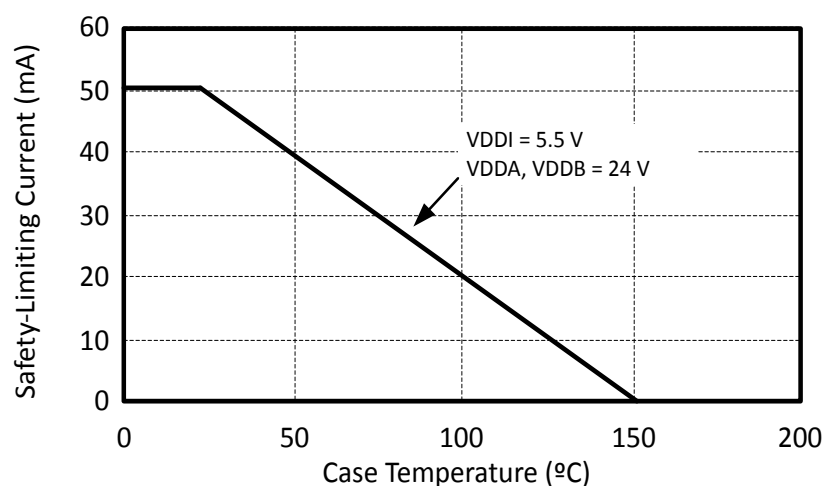

Figure 3.4. WB SOIC, NB SOIC, 14 LD LGA/QFN Thermal Derating Curve, Dependence of Safety Limiting Values with Case Temperature per VDE 0884-10
- Maximum value allowed in the event of a failure. Refer to the thermal derating curve in Figures [Figure 3.4 WB SOIC, NB SOIC, 14 LD LGA/QFN Thermal Derating Curve, Dependence of Safety Limiting Values with Case Temperature per VDE 0884-10 on page 32](#).